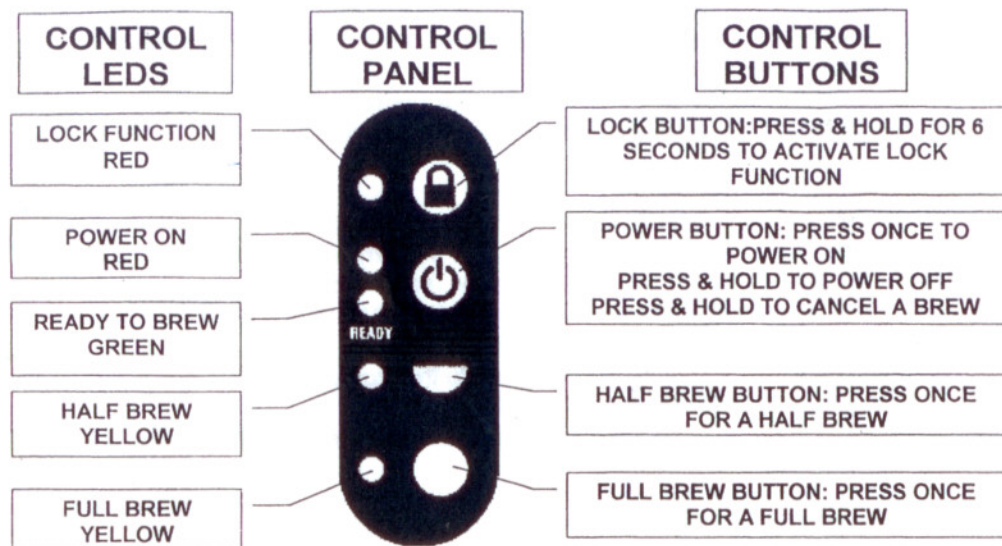

Fig.1
- The Filtro Shuttle has a button lock function to prevent untrained personnel operating the machine, or accidental misuse. To enable the lock function the Lock Button (see fig.1) is pressed and held for 6 seconds, the red Lock Function LED next to the button will illuminate. The control panel is now 'locked'. No buttons are operational when the lock function is enabled. The machine will operate as normal, i.e. if the machine is brewing, it will continue to brew. Once completed another brew cannot be selected until the lock is disabled. The Ready to Brew LED may still be on, but no brew will be able to be selected.
- Switch the machine on by pressing the Power Button (See Fig.1). The Power LED will glow.
- Select the correct brew on the control panel by pressing either the Half Brew or the Full Brew Button (see fig.1). Press the switch until the yellow LED illuminates. N.B. If you make a mistake press the Power Button to turn the machine off. Wait 3 seconds and turn back on again. Select the correct brew.